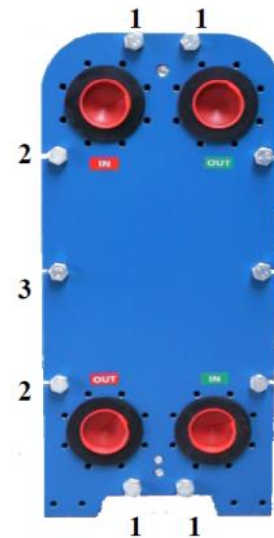

Fig. 10
7. Loosen the clamping bolts equally in the correct order (fig. 10) i.e. that the follower shall have a parallel opening motion.
1. Lightly oil the tie bolt threads. Do not allow oil or grease onto the gaskets or the gasket seating faces on the back of the plates. Wet or contaminated plates can become misaligned during tightening. In this case, dismantle, clean, and dry all areas in contact with the gaskets. Evenly tighten all bolts in the correct order (refer page 15 fig. 10). We advise the use of ratchet spanners.